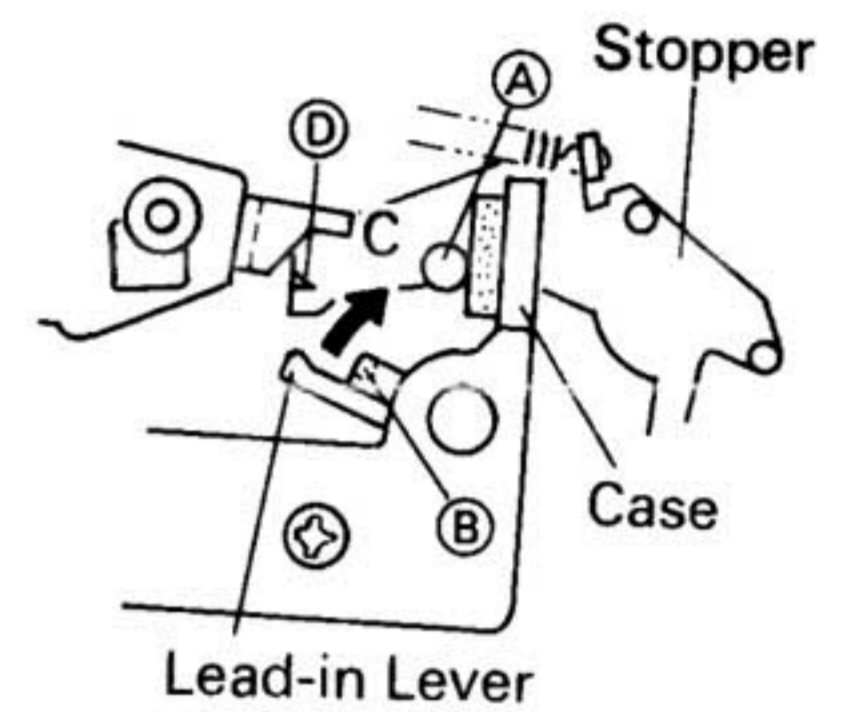

Fig. 4
At the end of the linear motion of the drive plate in direction "a", stud (B) (mold) of the lead-in lever enters the cam hole in the chassis base, then the lead-in lever rotates in direction "c", and arm lever stud (A) is held between lead-in lever and case as shown Fig. 4, and the drive plate moves in direction "b". Arm lever stud (A) moves with the drive plate to move the tonearm onto the record.